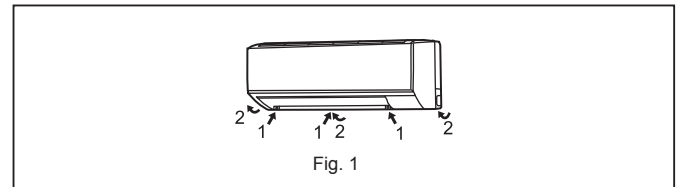

Fig. 1
- The drain hose should point downward for easy drain. (Fig. 1)
- 1) Cut the copper pipe as straight as possible with a pipe cutter. (Fig. 1, 2)
#### Removal procedure (Fig. 1)